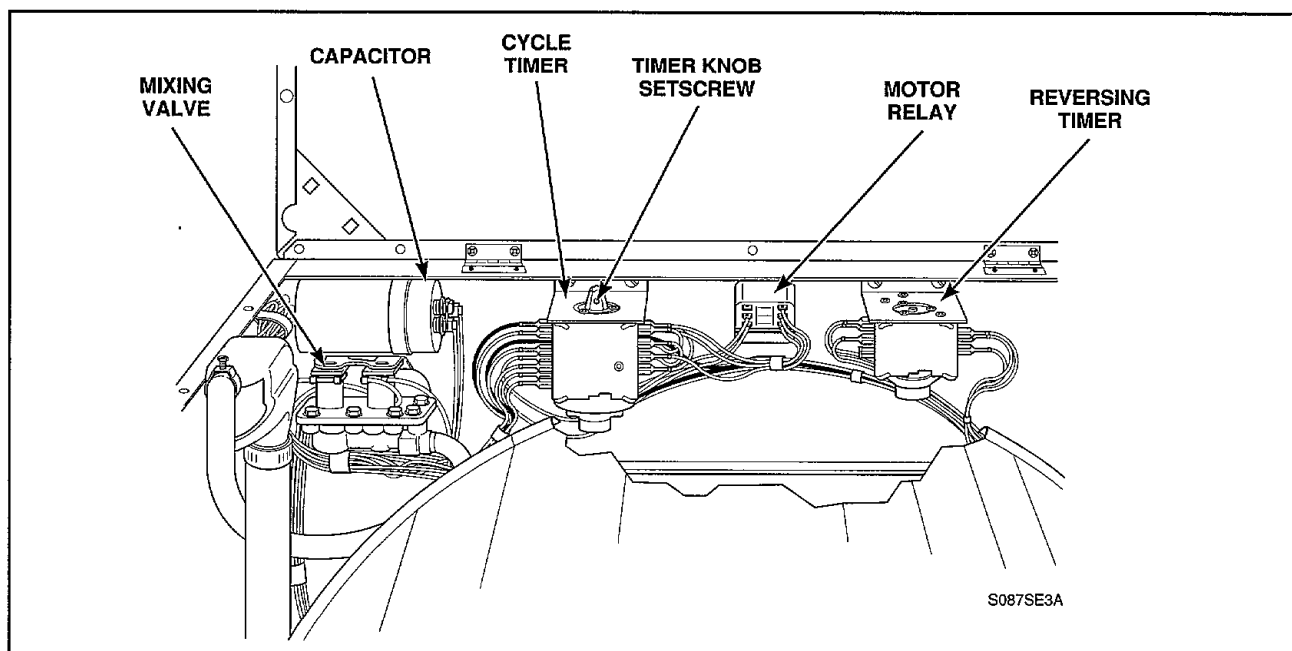

Figure 29
- i. Remove nut holding motor relay to rear cross channel, *Figure 29*.
- h. **CYCLE TIMER:** Loosen setscrew holding knob to timer shaft, *Figure 29*, and remove knob.
- i. Remove three screws holding timer to mounting bracket, *Figure 29*.
- i. Remove capacitor clamp screw holding capacitor to cross channel, *Figure 29*.
- i. Remove screw holding mixing valve to rear cross channel, *Figure 29*.